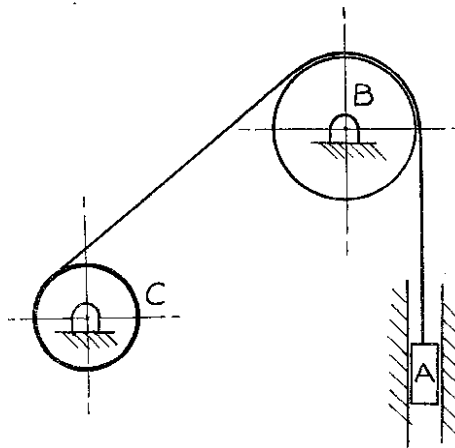

FIGURE 1
2. A body A, of mass 50 lb is lifted by a rope which passes over a guide pulley B and on to a drum C, as shown in Figure 1. The inclination of the rope between the pulley and the drum is  $40^\circ$  to the horizontal. The guide pulley has mass 120 lb, radius of gyration 15 in, and effective radius to the centre of the rope 18 in; the friction torque at its bearings is 10 lbf ft. The corresponding figures for the drum are 200 lb, 8 in, 10 in, 15 lbf ft. It may be assumed that no slipping occurs between the rope and the guide pulley, and that the mass of the rope is negligible.